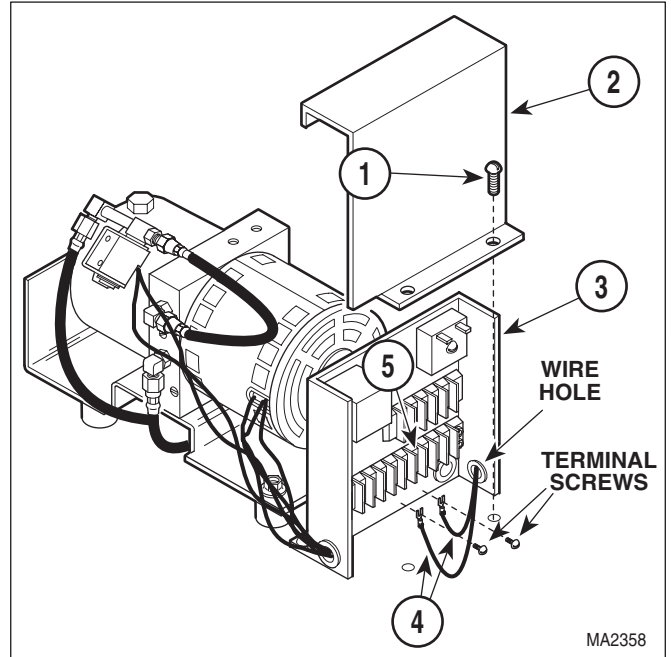
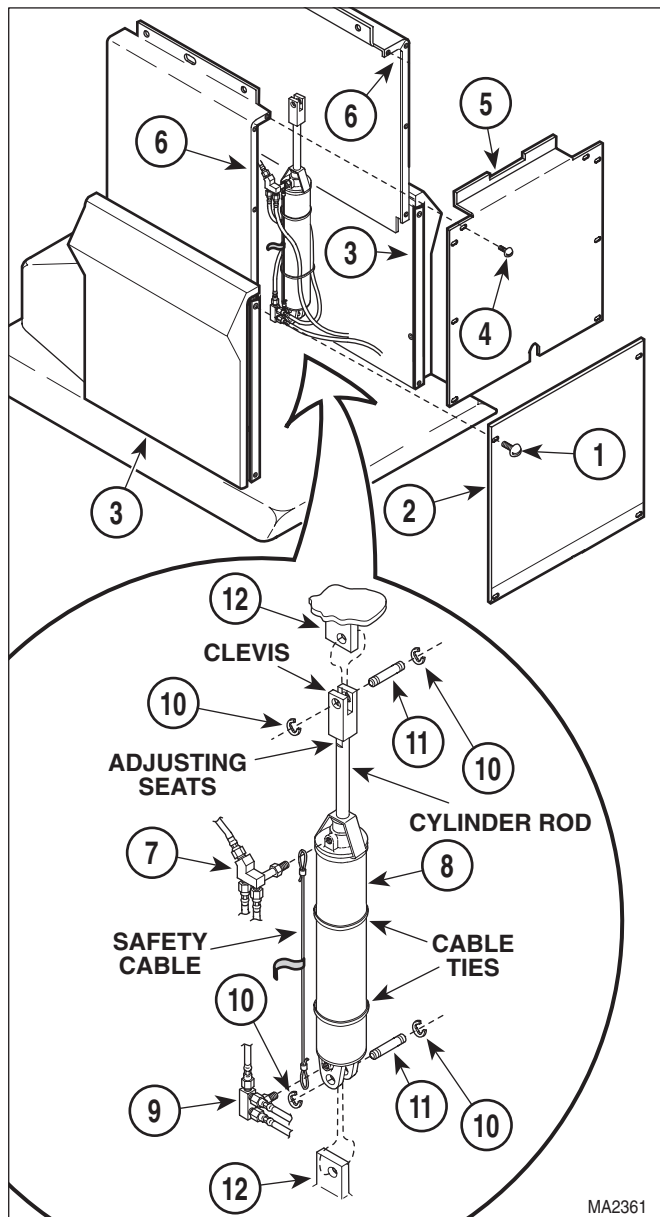

Figure 4-15. Tilt Cylinder Wire Disconnection / Connection
Figure 4-16. Tilt Cylinder Removal / Installation
- (1) If possible, lower TILT DOWN function all the way down.
- (2) Raise FOOT UP function all the way up.
- (3) Unplug table power cord from outlet.
- (4) Remove motor cover assembly (Refer to para 4.2).
- (5) Remove two screws (1, Figure 4-15) and control cover (2) from control panel (3).
- (6) Loosen two terminal screws; then tag and disconnect two tilt cylinder wires (4) from terminal block (5).
- (7) Pull tilt cylinder wires (4) out thru wire hole.
- (8) Remove four screws (1, Figure 4-16) and front outer shroud (2) from left and right hand outer shrouds (3).
- (1) Install tilt cylinder (8, Figure 4-16) on brackets (12) and secure with two clevis pins (11) and four E-rings (10).
- (2) Connect power manifold (9) to base of tilt cylinder (8).
- (3) Connect return manifold (7) to rod end of tilt cylinder (8).
- (4) Secure wire harnesses and hose assemblies to tilt cylinder (8) with a cable tie.
- (5) Route tilt cylinder wires (4, Figure 4-15) thru table.
- (6) Feed tilt cylinder wires (4) thru wire hole in control panel (3).
- (7) Connect two tilt cylinder wires (4) to terminal block (5) and secure by tightening two terminal screws.
- (8) Install control cover (2) on control panel (3) and secure with two screws (1).
- (9) Install any cable ties which were removed.
- (10) Plug table power cord into outlet.
- (11) Lower TILT DOWN function all the way down.
- (12) If seat section *is not* level with floor when the TILT DOWN function *is* completely lowered, perform steps 13 thru 15. If seat section is level when the TILT DOWN function is completely lowered, go to step 16.